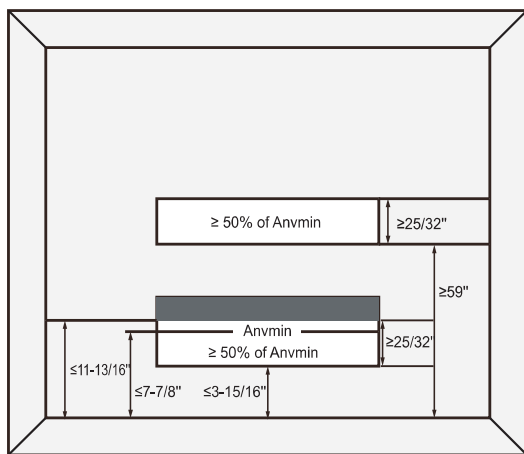

Figure 2.6 Opening conditions for connected rooms
- The area of the connected rooms, on the same floor, connected by permanent opening in the walls and/or doors between occupied spaces, including gaps between the wall and the floor, can be considered a single room when determining compliance to Amin, provided all of the following conditions are met as Figure 2.6.
- ① The opening shall not be less than Anvmin in Table 2.5.
- ② The area of any openings above 11-13/16 inches from the floor shall not be considered in determining compliance with Anvmin.
- ③ At least 50% of the opening area of Anvmin shall be below 7-7/8 inches from the floor.
- ④ The bottom of the opening is not more than 3-15/16 inches from the floor.
- ⑤ The opening is a permanent opening that cannot be closed.
- ⑥ For openings extending to the floor the height shall not be less than 25/32 inches above the surface of the floor covering.
- ① The opening shall not be less than 50% of Anvmin in Table 2. 3.
- ② The opening is a permanent opening that cannot be closed.